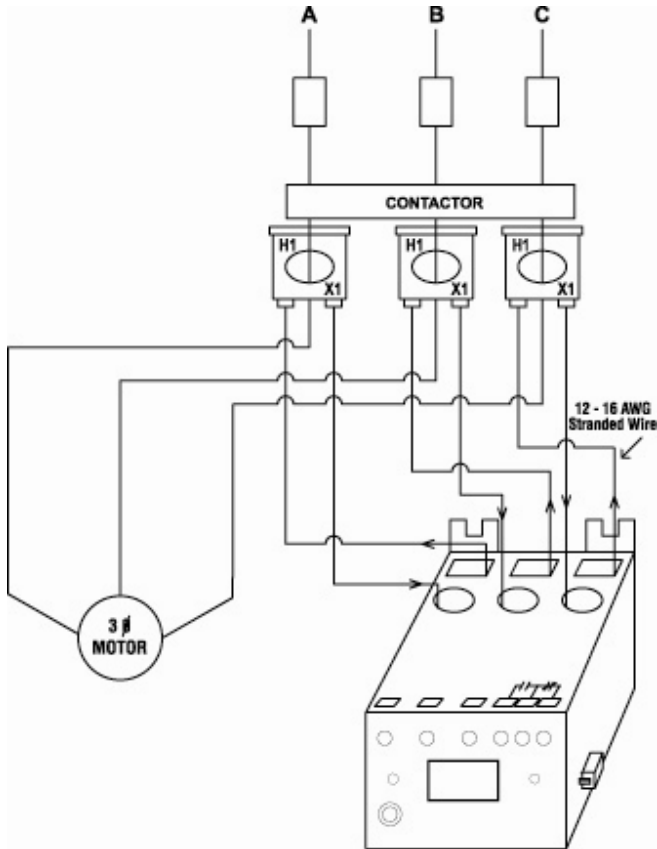

Figure 2: Typical Wiring Using External CTs²
3. External CTs (current transformers) are required. SymCom recommends using CTs with terminal connections for easier installation. All CT secondaries must make one or two passes through the round holes on the MotorSaver®Plus according to Table 1. See Figure 2 for a typical wiring diagram.